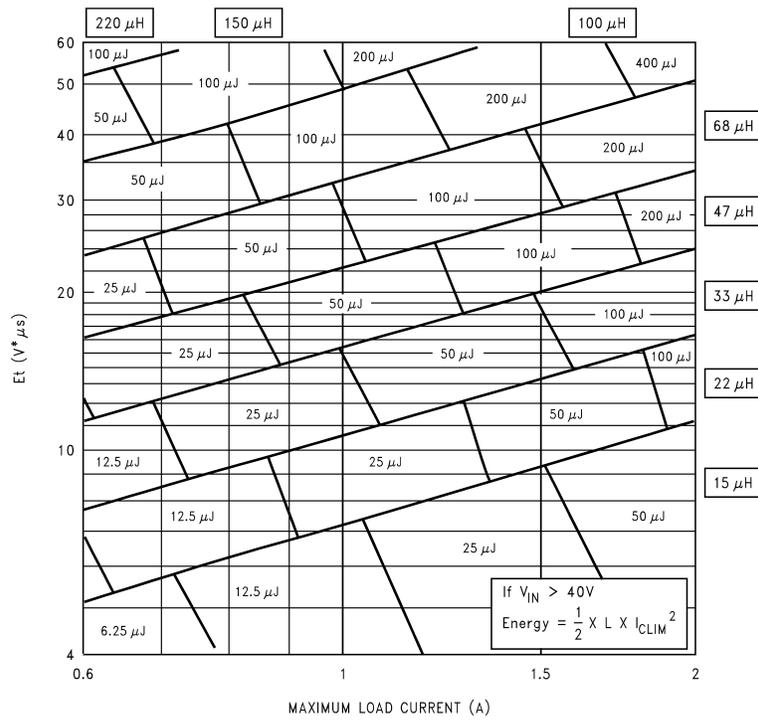

Figure 27. LM2592HV-ADJ
Application Note AN-1197 titled "Selecting Inductors for Buck Converters" provides detailed information on this topic. For a quick-start the designer may refer to the nomographs provided in Figure 25 to Figure 27. To widen the choice of the Designer to a more general selection of available inductors, the nomographs provide the required inductance and also the energy in the core expressed in microjoules (μJ), as an alternative to just prescribing custom parts. The following points need to be highlighted:
5. Figure 27 shows the inductor selection curves for the Adjustable version. The y-axis is 'Et', in $\text{V}\mu\text{secs}$. It is the applied volts across the inductor during the ON time of the switch ($V_{\text{IN}} - V_{\text{SAT}} - V_{\text{OUT}}$) multiplied by the time for which the switch is on in μsecs . See Example 3.
1. Since input voltage is less than 40V, a first pass inductor selection is based upon Inductance and rated max load current. We choose an inductor with the Inductance value indicated by the nomograph Figure 27 and a current rating equal to the maximum load. But we first need to calculate Et for the given application. The Duty cycle is
2. We should confirm that it is rated to handle 200 μ J (see Figure 27) by the procedure shown in AN-1197 and that the losses are acceptable. (If the DC Input voltage had been greater than 40V we would need to consider e_{CLIM} as in Example 2).